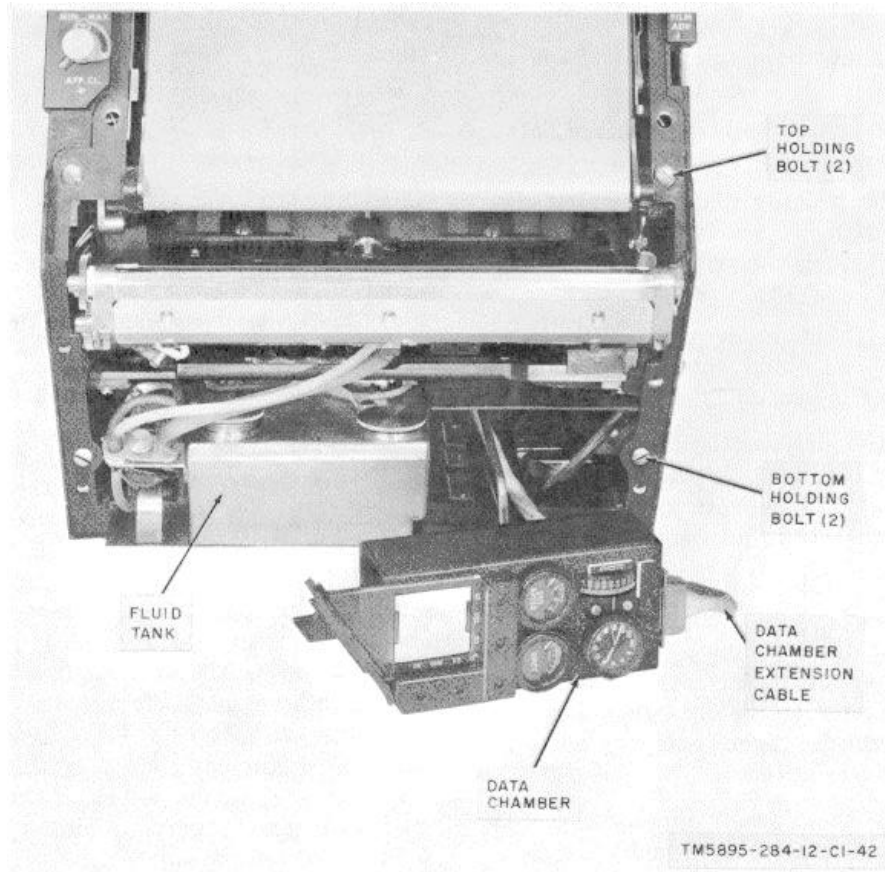

Figure 2-9. Recorder-Processor-Viewer, Radar Mapping RO-166(*)/UP, internal view, bottom cover removed.
(2) Be sure that the fluid tank is in position (fig. 2-9); follow the instructions given in TM 11-5820-680-12 which covers the RO-166(*)/UP installation. Carefully prepare, mix, and filter fresh film processing solution (monobath) *daily* as prescribed in that manual.
(3) Follow the instructions given in TM 11-5820-680-12 in which the RO-166(*)/UP is installed for loading and installing the film cassette into the RO-166(*)/UP.
(4) Remove the data chamber and attach it to the data-chamber extension cable (fig. 2-9).
(5) Apply power to the radar set (para 2-11).
(7) Plug in the data chamber; use the data-chamber extension cable (fig. 2-9).